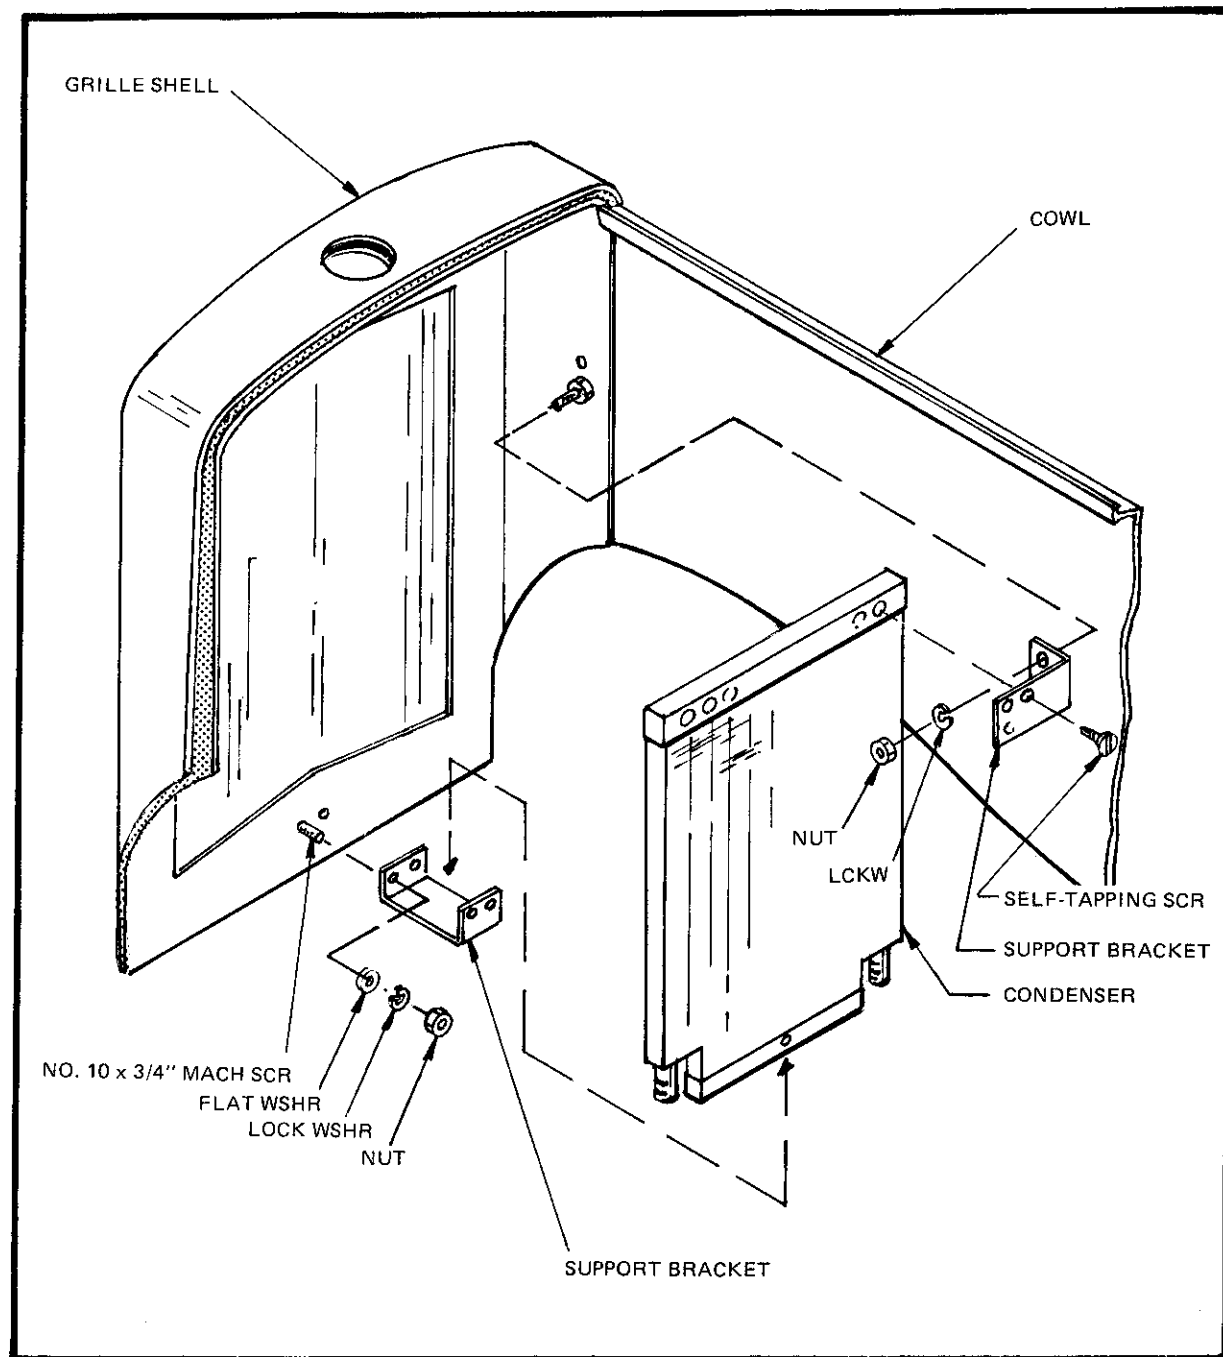

Figure 47
- ☐ Bend bottom bracket around until it can be fastened to fiberglass of grille shell. Secure with No. 10 x 3/4" machine screw with flat washer, lock washer and nut. Keep condenser as close to radiator as possible. (Figure 47)